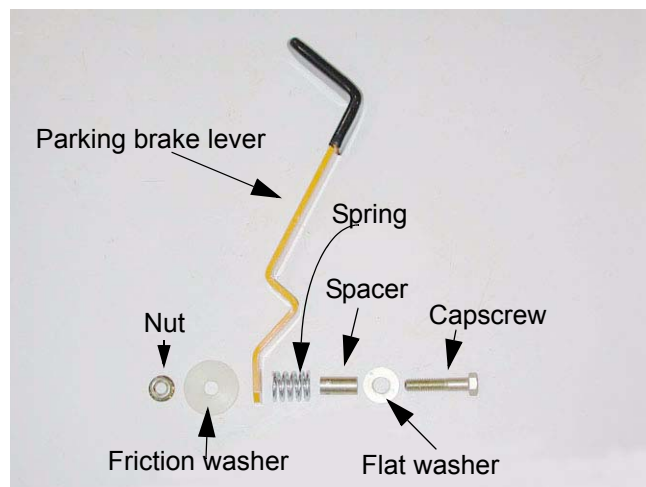

Figure 8.7
- 8.7. Check the brake lever mounting hardware. See Figure 8.7.